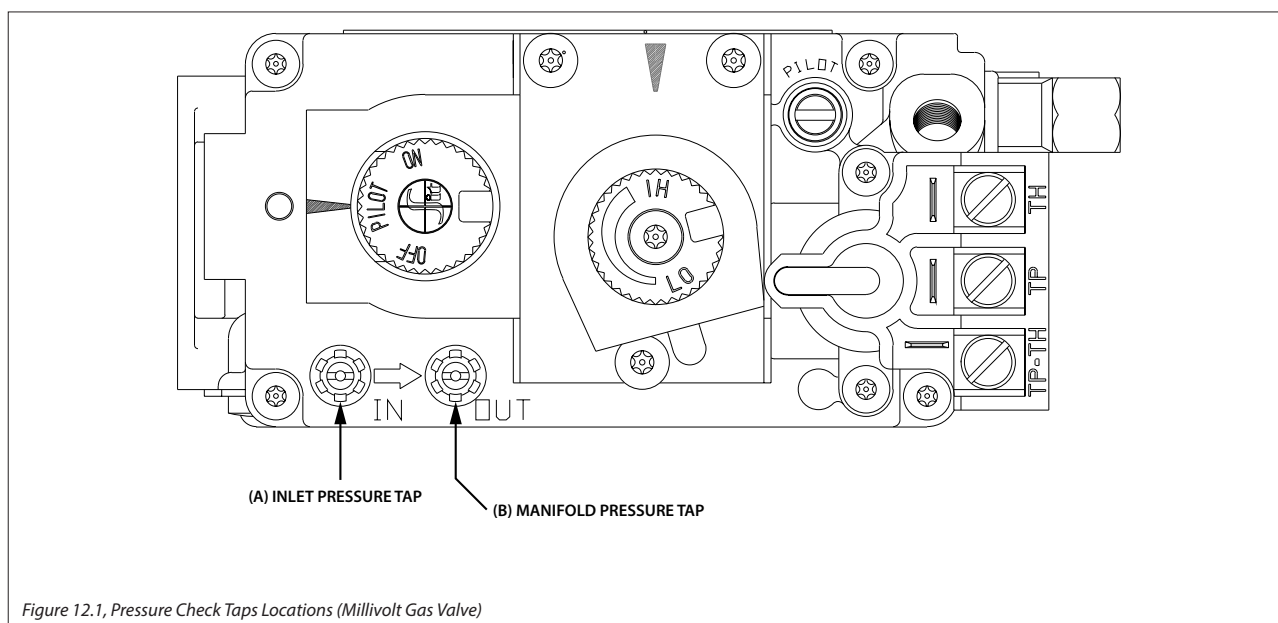

Figure 12.1, Pressure Check Taps Locations (Millivolt Gas Valve)
1. Loosen the inlet (IN) pressure tap by turning screw counterclockwise. See (A) in Figure 12.1.
8. Disconnect hose and tighten the inlet (IN) pressure tap by turning screw clockwise. Screw should be snug. Do not over
2. Loosen manifold (OUT) pressure tap by turning screw counterclockwise. See (B) in Figure 12.1.
7. Attach the manometer to the manifold pressure tap (B) to verify it is completely sealed. The manometer should read no pressure when the ON/OFF rocker switch is pressed to ON.